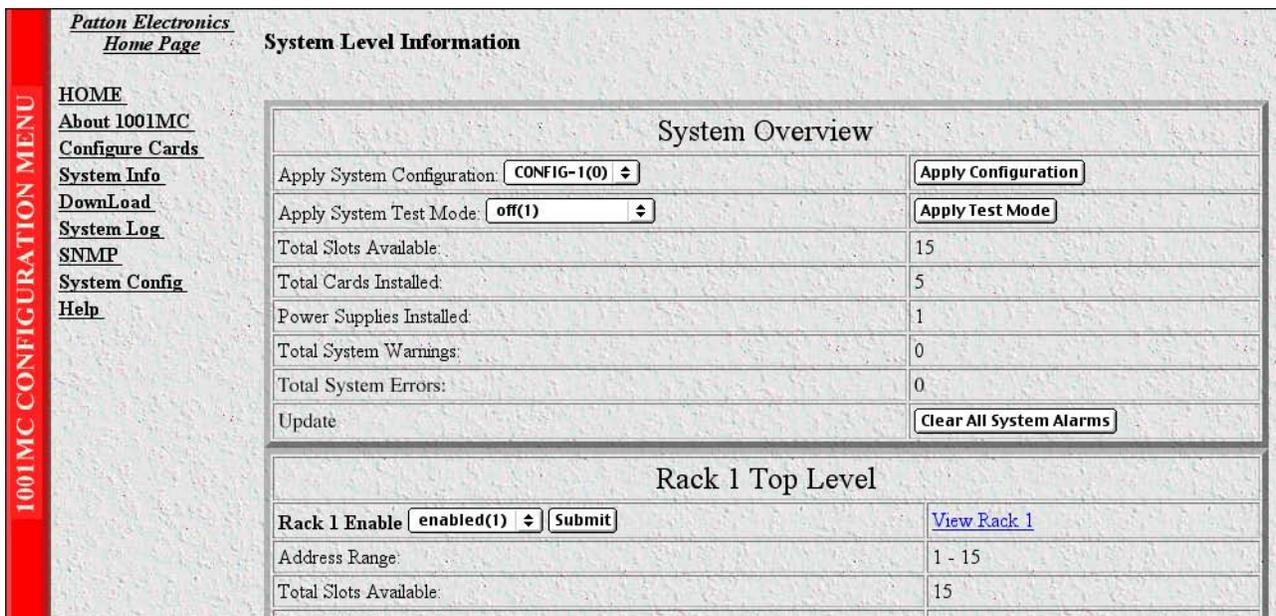
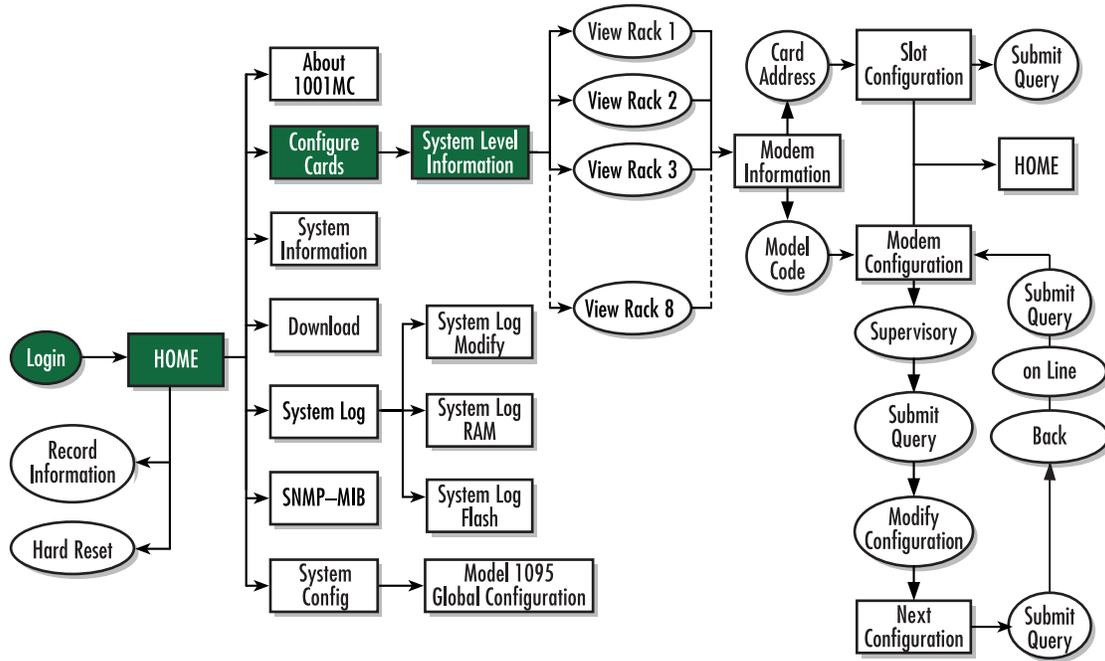

Figure 135. System Level Information page
Figure 136. Web page navigation to System Level Information page
1. Starting from the HOME page, click on the *Configure Cards* link to display the System Level Information page see figure 135. Figure 136 shows the web page navigation required to get to this area of the system.
2. Use the *Apply System Configuration* pop-up menu (see figure 135) to select the template you want to apply.
1. Starting from the HOME page, click on the *Configure Cards* link to display the System Level Information page see figure 137. Figure 136 on page 273 shows the web page navigation required to get to this area of the system.